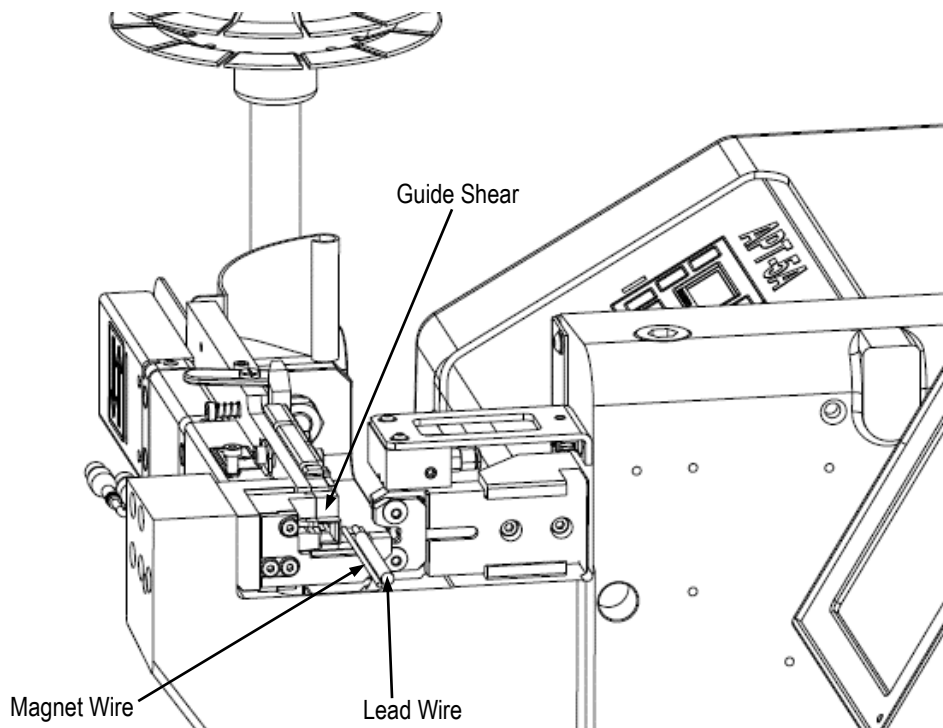
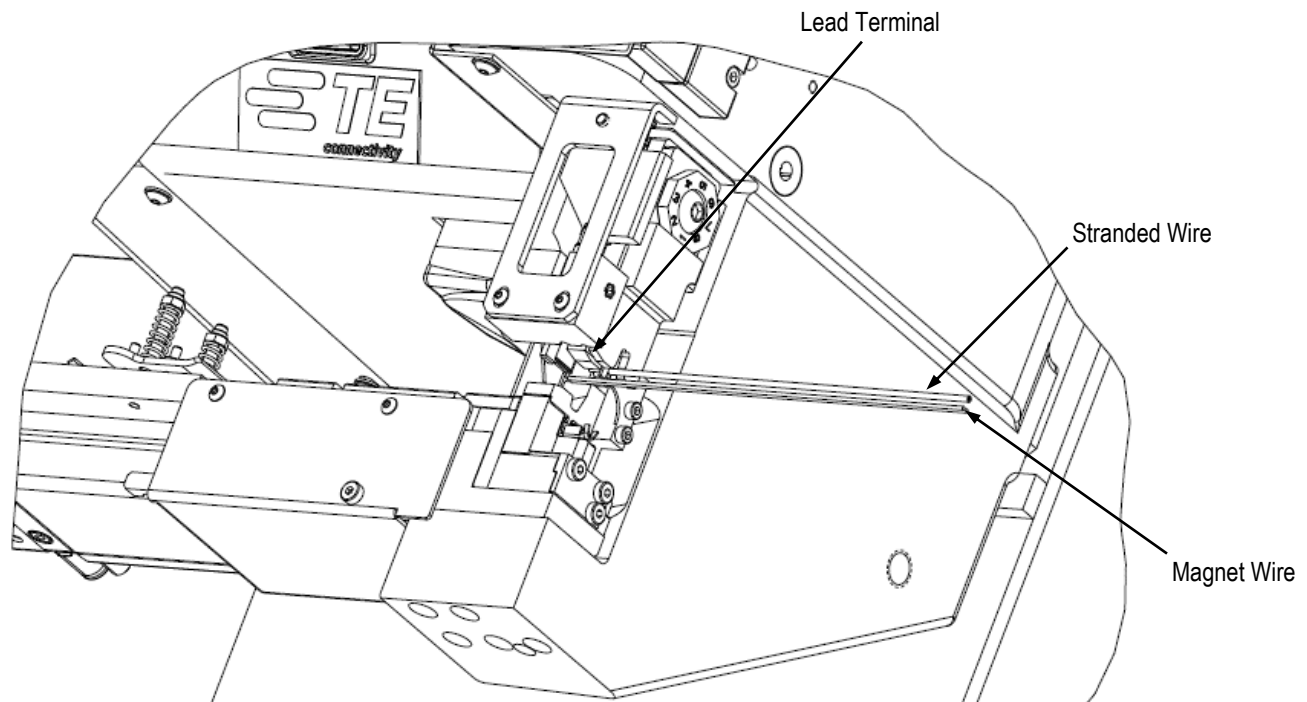

Figure 14
Figure 15
3. Depress and hold the feed finger release button on front of the feed plate while feeding the terminal strip through until the first terminal has passed the tip of feed finger. Then release the button to engage the feed finger. Pull back slightly on the terminal strip to ensure that the feed finger is indexed against the first terminal. Refer to Figure 14.
3. Feed the terminal strip through until the first terminal has passed the tip of feed finger and is over the lower tooling (anvil). Then, pull back slightly on the terminal strip to ensure that the feed finger is indexed against the first terminal. Refer to Figure 15.
- Place wires in the "target area," aligned with the terminal. When using stranded and magnet wire, position it as shown in Figure 14 (splice terminator) or Figure 15 (direct connect terminator). When splicing two or three magnet wires, they may be in any position with respect to each other. The crimp tooling will automatically position them side-by-side in the bottom of the terminal as crimping occurs.